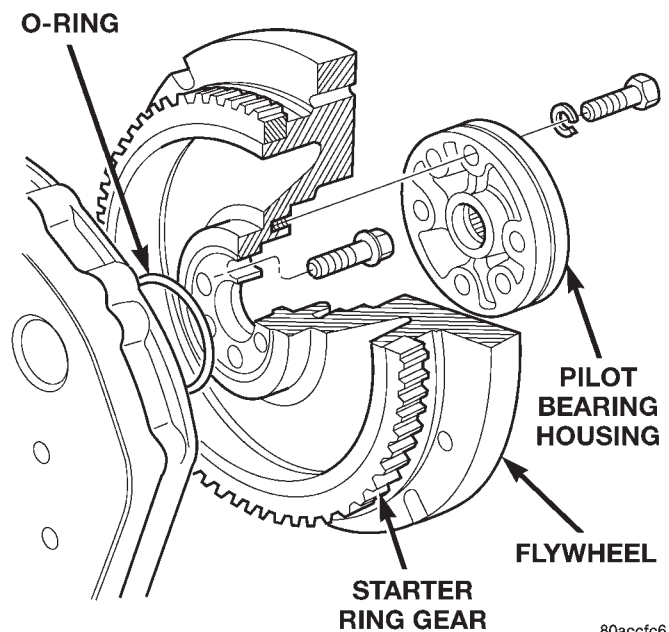

Fig. 9 Flywheel Mounting (VM Diesel)
- (1) Remove transmission and clutch housing. (Refer to Group 21, Transmission And Transfer Case.)
- (2) Remove clutch cover and disc as described in this section.
- (3) Remove bolts that attach pilot bearing retainer to flywheel.
- (4) Remove pilot bearing and retainer.
- (5) Remove flywheel bolts.
- (6) Grasp flywheel firmly and work it off the crankshaft flange (side to side or up and down). Be sure to maintain a firm grip as the flywheel is heavy.
- (7) Remove the o-ring from the crankshaft flange, or the mounting shoulder of the flywheel (Fig. 9).
- (8) Clean the flywheel in solvent.
- (1) Clean crankshaft flange before mounting the flywheel. Dirt or grease on flange surface may cock flywheel causing run-out.
- (2) Install new o-ring in the flywheel mounting flange (Fig. 9). Use grease to hold the ring in place.